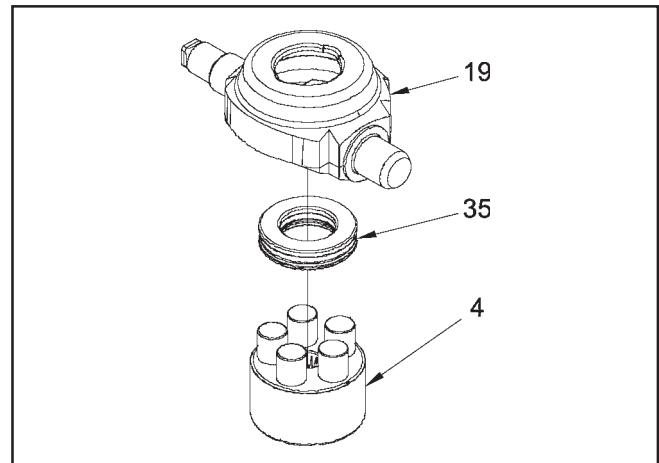

Figure 12
8. **(See Figure 12)** Disassemble the pump cylinder block (4) from the swashplate (19).
12. (See Figure 12) Place the pump block assembly (4), pistons down, on top of the thrust bearing in the swashplate (19).